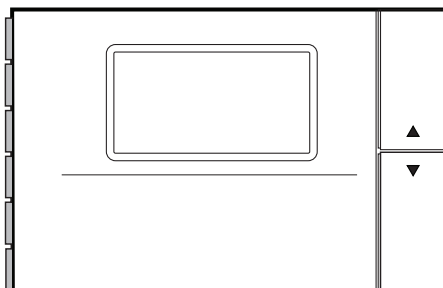

Figure 1
1.2.2. Remote Room Sensor(s) (Figure 1)